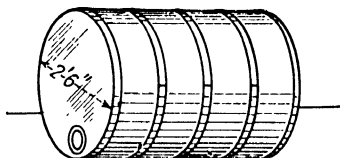

Fig. 60b.
7. What is the total length in feet of 3 steel bands which must be butt-welded around the barrel, as shown in Fig. 60b?